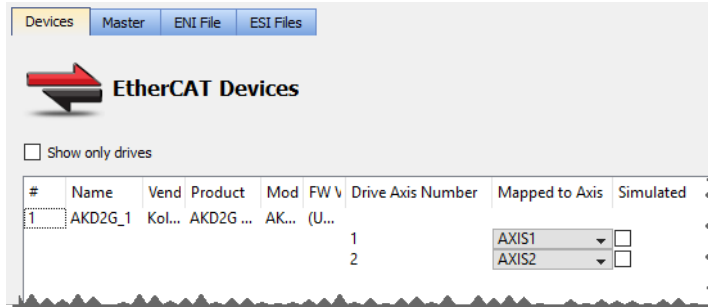

Figure 4-13: Example of Axis 1 and Axis 2
- Example: If Axis1 is mapped to an AKD2G's Drive Axis Number 1 and Axis2 is mapped to the AKD2G's Drive Axis Number 2, both axes return the same address. (Figure 4-13)